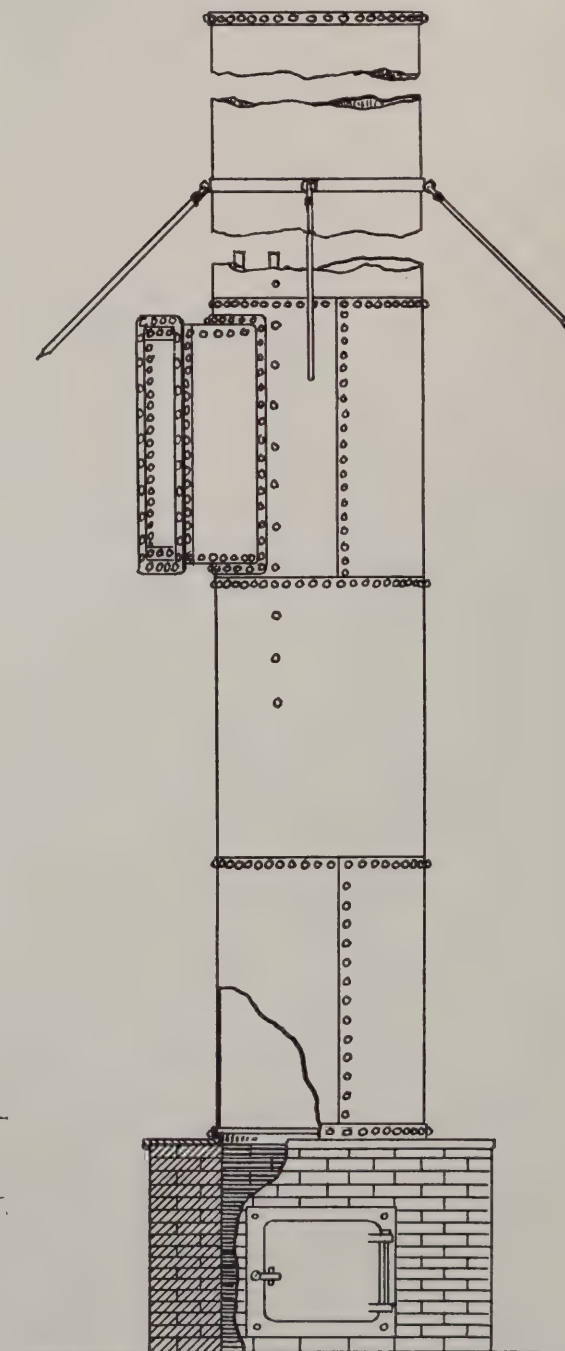

Fig. 51
*Guyed Steel Stacks.* A guyed steel stack is shown in Fig. 51. A painter's ring is provided near the top of such a steel stack. This is a circular metal track with trolley and block from which to swing a bo'swain's chair. A ladder is also provided so that the top of the stack can be reached at any time. Guyed stacks do not require heavy foundations because they are much lighter than self-supporting stacks. Sometimes instead of resting on a foundation (as shown in the illustration) they are riveted to the smoke breeching or else are connected with the smoke uptake and with the boiler setting. Guyed stacks are not lined with brickwork, and therefore the plates need not be as thick as for self-supporting stacks of the same size. The thickness of plate is determined largely by the degree of permanence required. Corrosive action of the flue gases and the weather gradually reduces the thickness of the sheets until the stack is no longer safe. The thickness of plates for guyed stacks is generally within the limits given in this table, which is the result of experience.